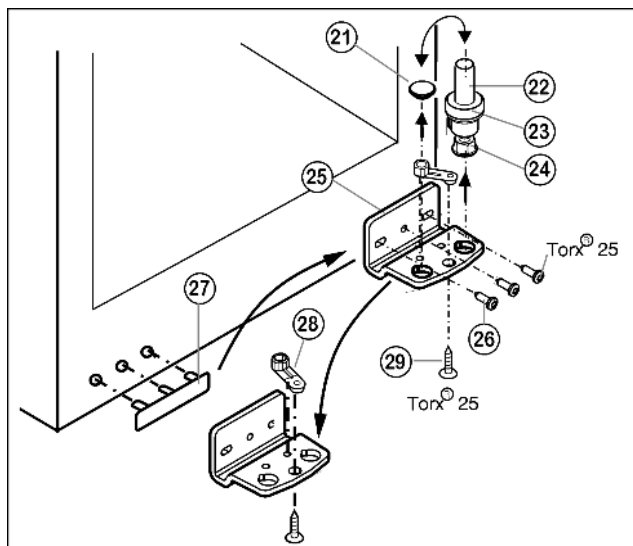

Fig. 5
- Lift out the bearing pin Fig. 5 (22) together with washer Fig. 5 (23) and adjustable-height foot Fig. 5 (24).
- Lift off the stopper Fig. 5 (21).
- Unscrew Fig. 5 (26) the turn hinge Fig. 5 (25).
- Unscrew Fig. 5 (29) the bearing element Fig. 5 (28), transfer it to the opposite location hole of the turn hinge and screw it firmly into place.
- Carefully lift off the cover on the handle side Fig. 5 (27) and transfer it to the opposite side.
- Screw the turn hinge Fig. 5 (25) firmly into place on the new hinge side, possibly using a cordless screwdriver (with 4 Nm).
- Re-insert the stopper Fig. 5 (21) into the other hole.
- Re-insert the bearing pin Fig. 5 (22) together with the washer and adjustable-height foot. In so doing, pay attention that the locating lug points backwards